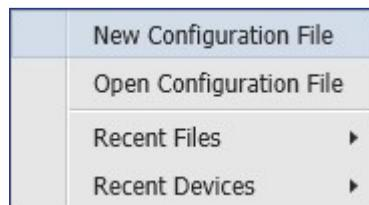

Figure 31. Configuration File Drop-Down List
1. From the Configuration File drop-down list, select **New Configuration File** (see figure 31).